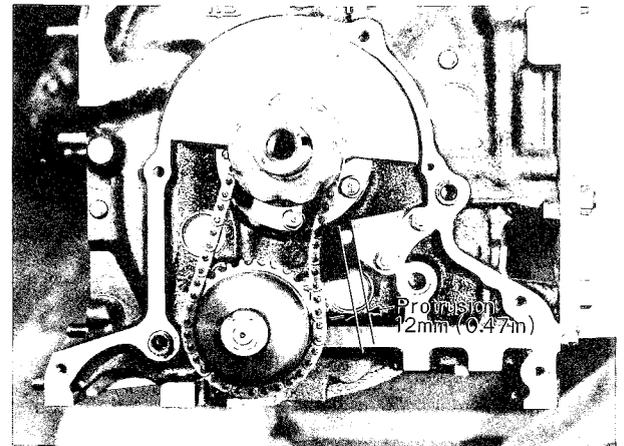

Fig. 1-85 Checking chain adjuster protrusion
4. Place the chain adjuster in position and tighten the attaching nuts, then check the amount of protrusion of the chain adjuster as shown in Fig. 1-85. If the protrusion exceeds 12 mm (0.47 in), replace the adjuster or chain.